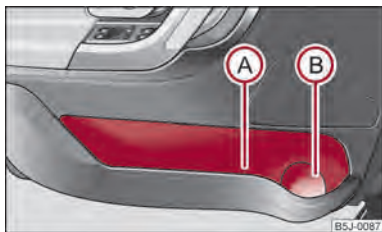

Fig. 74 Stowage compartment in door panel
Use the area (A) ⇒ fig. 74 of the storage compartment only for storing objects which do not project so that the effectiveness of the side airbag is not impaired.